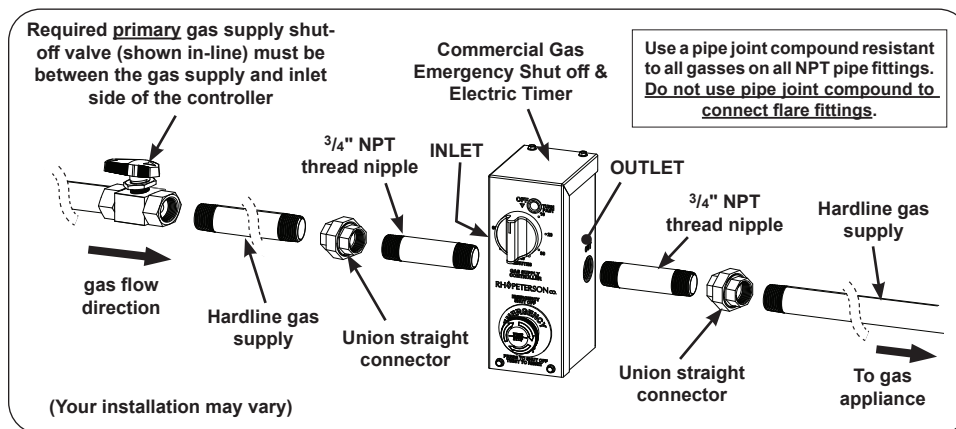

Fig. 3-1 Gas supply installation overview
2. Route the gas supply to the desired location as applicable to your local codes. Check all connections for gas leaks before proceeding. See Fig. 3-1 for reference as a gas supply overview.
Note: It is recommended to use a union straight connector (not included) in this installation for easy access, maintenance, and servicing when needed. See Fig. 3-1.
3. Connect the $3/4$ " NPT thread nipples to the gas line on inlet (IN) and outlet (OUT) labeled threads to make gas connections. (See Fig. 3-1 for reference).
Important: A required primary gas supply shut-off valve must be placed on the inlet side of the controller. Refer to Fig. 3-1 and the INSTALLATION OVERVIEW section on the pervious page as needed.